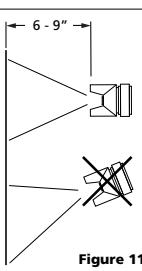

Figure 11
1. Begin spraying. Always keep the gun at right angles to the work (See Figure 11).